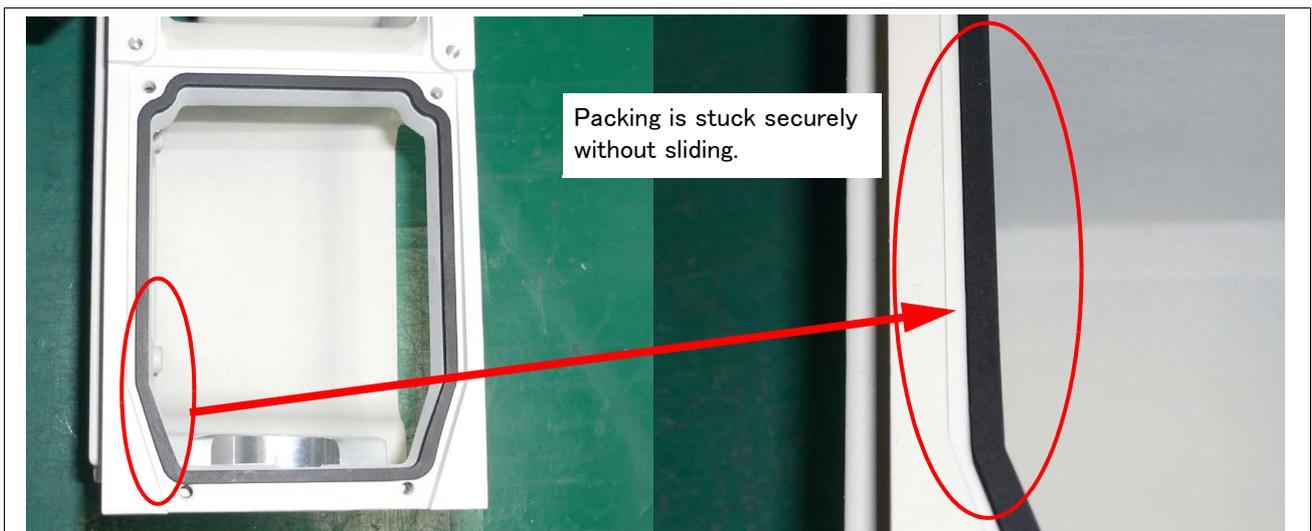
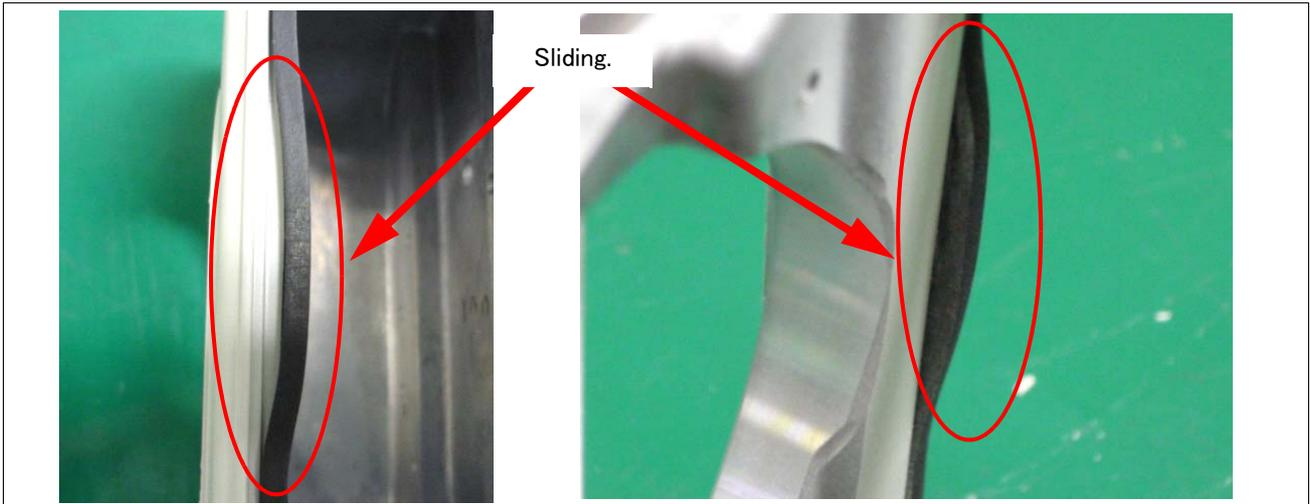

Fig.5-3 : Example of sticking packing (good example)
Fig.5-4 : Example of sticking packing (bad example)
- 2) The sticking surface of packing is double-coated adhesive tape. Referring to "Fig.5-3 : Example of sticking packing (good example)" and "Fig.5-5 : Sticking the cord-like packing", and stick the packing in line with form . Be careful for the packing not to slide. The example of unsuitable packing slid is shown in "Fig.5-4 : Example of sticking packing (bad example)".